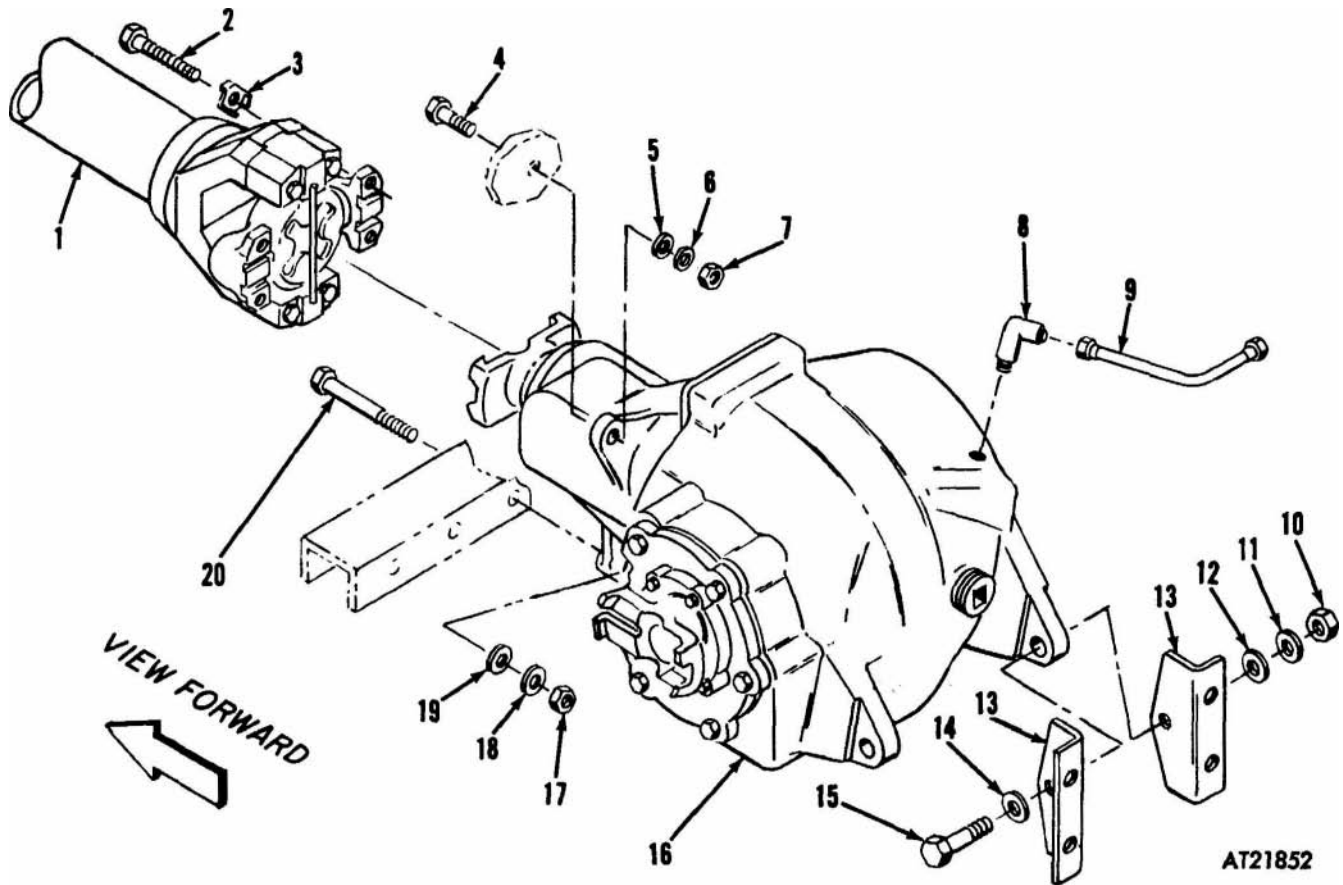

Figure 2-199. Rear differential, removal and installation.
(2) Using a suitable jack, raise rear of **carrier**. Block carrier securely and remove jack.
(3) Remove rear axle assemblies (refer to para 2-148).
(4) Disconnect carrier propeller shaft (1, fig 2-199) from the differential input flange by removing screws (2) and lock plates (3). Compress propeller shaft until free of input flange.
(5) Disconnect vent line (9) from elbow (8) **on** differential.
(6) Place a suitable jack **beneath** the differential assembly and apply a slight pressure on the assembly.
(7) Disconnect the differential assembly rear lugs from support brackets (13) by removing two screws (15), nuts (10), and washers (11, 12, and 14).
(8) Disconnect differential from the carrier by removing screws (4 and 20), nuts (7 and 17), and washers (5, 6, 18 and 19).
(9) Lower differential on jack and slide out from under carrier.
(10) Remove differential from jack, clean thoroughly.
(1) Using a suitable jack raise rear of carrier. Block carrier securely and remove jack.
(2) Place differential on a suitable jack and raise assembly into position under carrier.
(3) Secure differential rear lugs to support brackets (13, fig 2-199) using screws (15), nuts (10), and washers (11, 12, and 14). Torque screws to 200-250 lbs-ft.